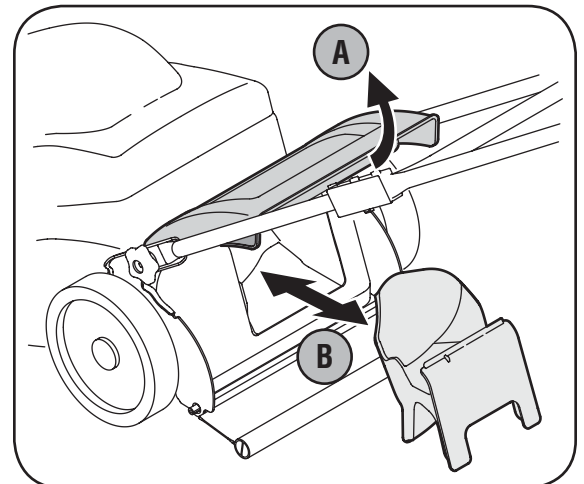

Figure 4-4
- a. Lift rear discharge door. See Figure 4-4.